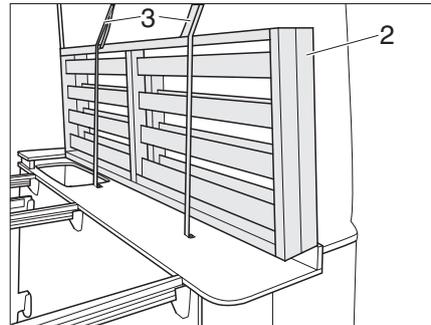

Fig. 51 Store slatted frame
- ▶ Place slatted frame (Fig. 51,2) on the right side of the vehicle and secure it with straps (Fig. 51,3).